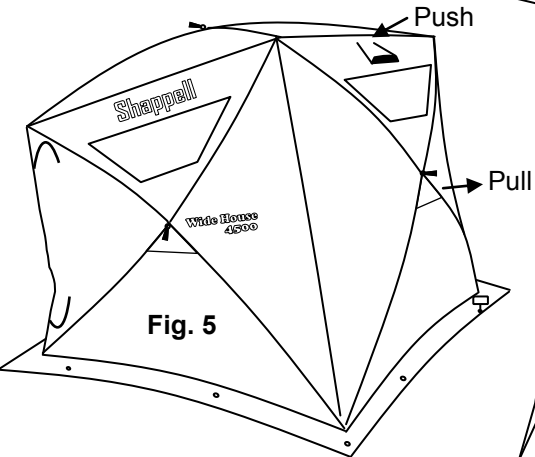

Fig. 5
5) Pull out all remaining hubs. (Fig. 5)